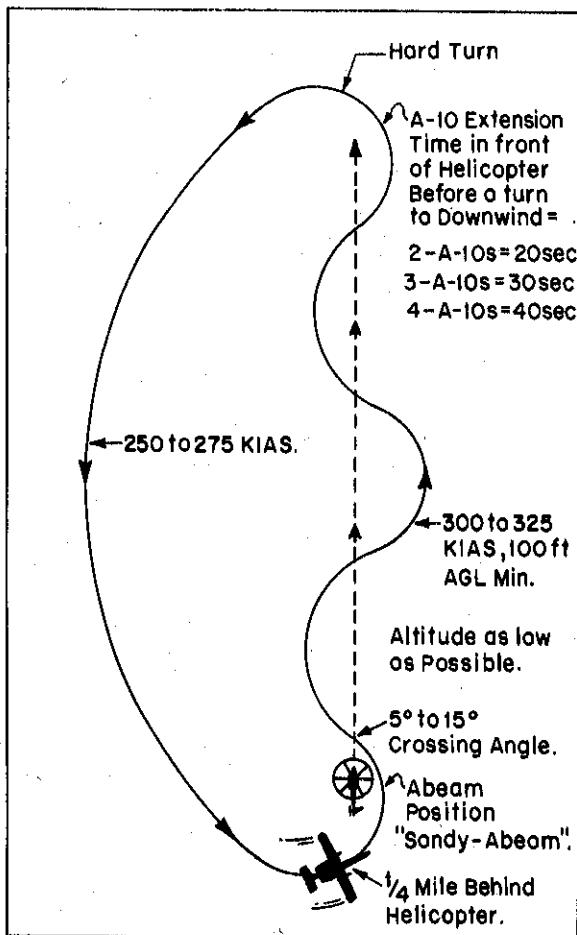

Figure 26-1. A-10/Helicopter Relationship During Daisy Chain Escort.
(1) The daisy chain (figure 26-1) pattern maximizes the A-10 ordnance delivery capability in relation to the helicopter's vulnerability zones. Normally, Sandy calls abeam the helicopter for reference and spacing. A minimum visibility of three miles and a ceiling of 1,500' AGL or higher is desired.